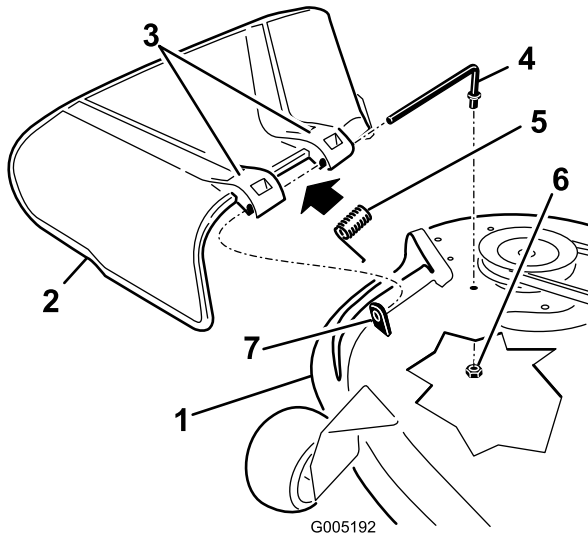

Figure 58
1. Remove the nut (3/8 inch) from the rod under the mower (Figure 58).
9. Secure the rear end of the rod into the mower with a nut (3/8 inch) as shown in Figure 58.
2. Slide the rod out of the short standoff, spring, and grass deflector (Figure 58).
4. Replace the grass deflector (Figure 58).
7. Slide rod through the second grass-deflector bracket (Figure 58).